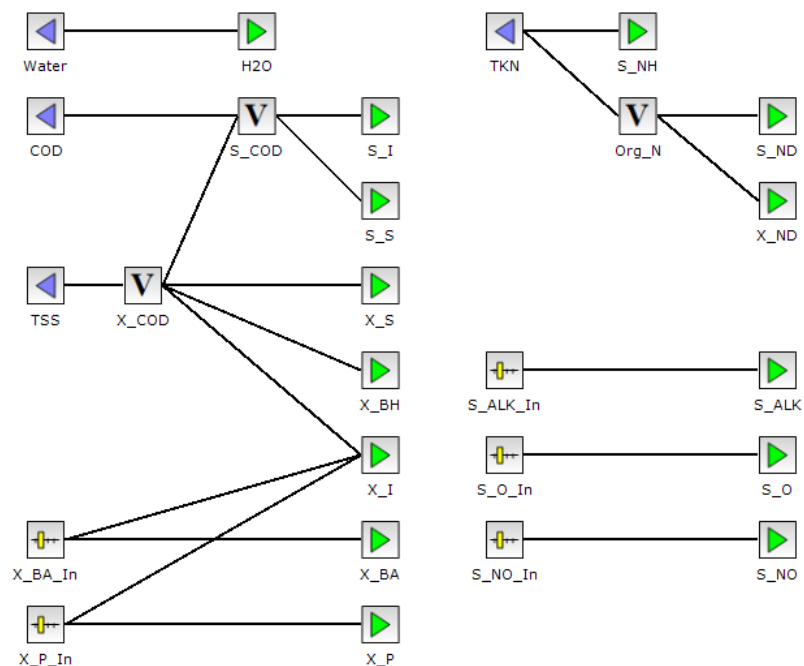

Figure 4.4 Default ASM1 fractionation layout
- **Fractionation:** Load the WEST.ASM1.Input.Layout.xml Fractionation Layout (Figure 4.4)